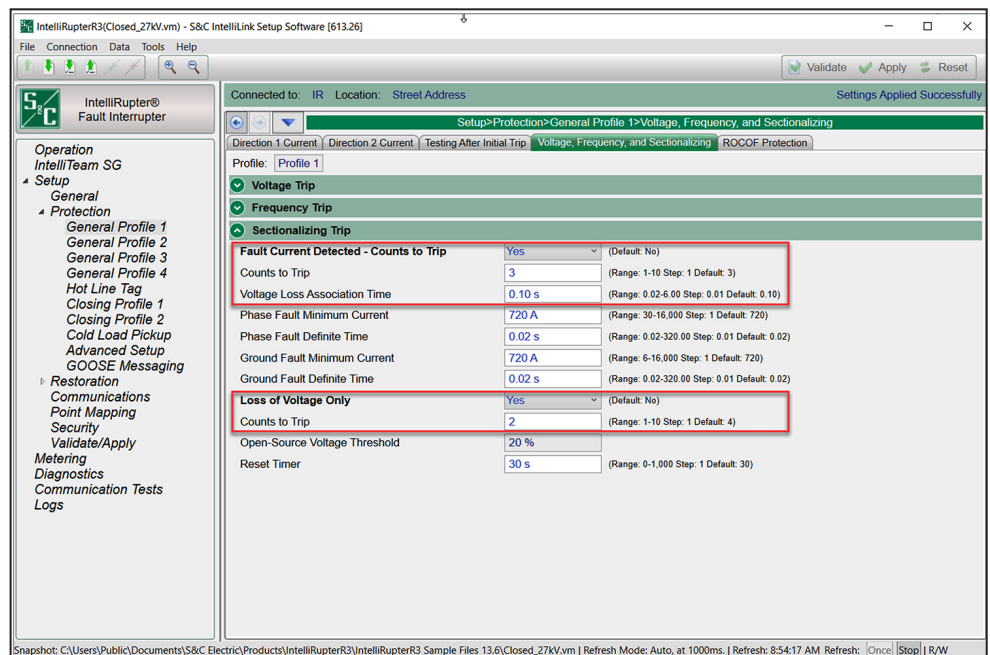

Figure 10. The Sectionalizing Trip settings.
STEP 3. Check the settings in the *Protection>General Profile 1-4>Voltage, Frequency, and Sectionalizing Trip* screen and adjust them if necessary (See Figure 10):